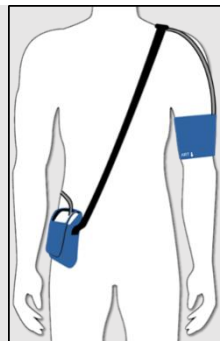

Fig 1: Mobil-O-Graph® with shoulder strap
- Ensure the correct positioning of the shoulder strap/waist belt and cuff tube, also see Fig. 1.
- The tube connection on the cuff must face upwards, see Fig. 1.